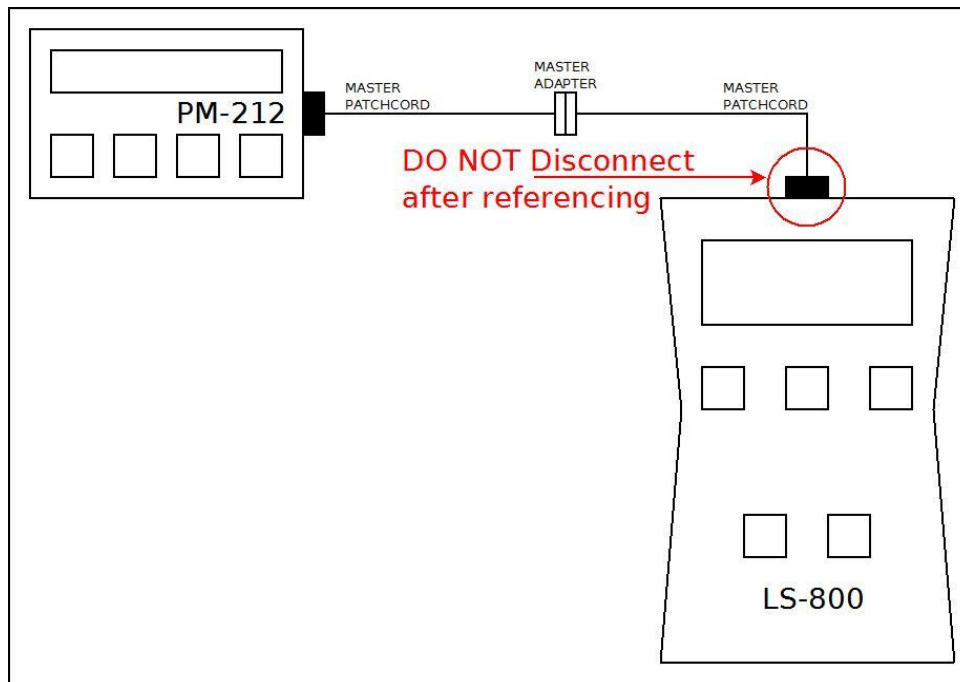

Figure 5: Setting reference by method 6
3. Use the master adaptor to connect the two fiber ends (figure 5).